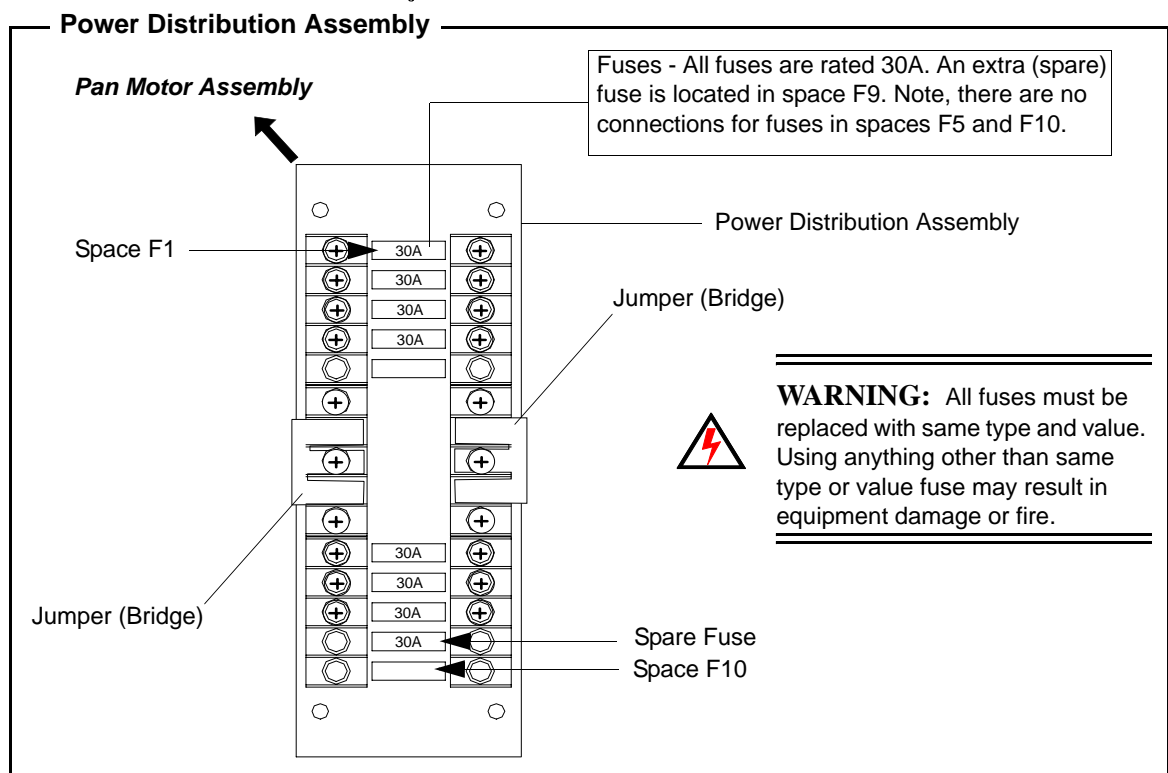

Figure 2-52: VLX Wash Upper Enclosure / Fuse Replacement
- Step 3. Using 3/16" hex wrench and as indicated in Figure 2-52, remove four 1/4-20 x 2" CAP SOC screws and two 1/4-20 x 1.5" CAP SOC screws and remove base cover.
- Step 4. As shown in Figure 2-52, locate blown fuse and replace.